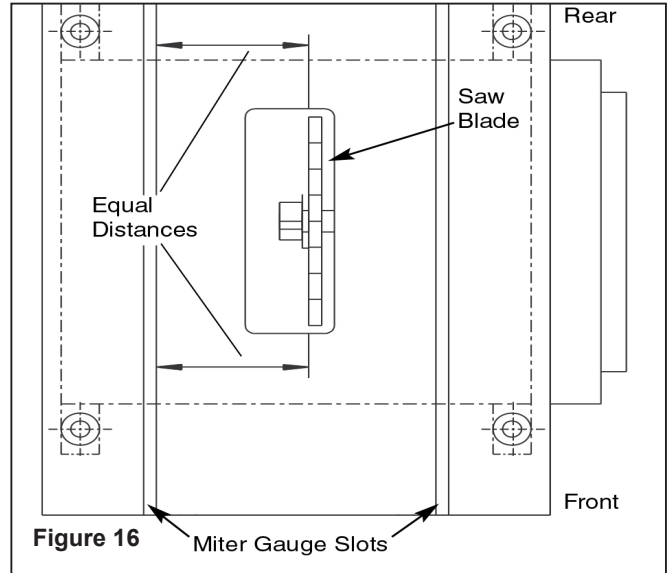

Figure 16
Refer to Figures 16, 17 and 18. Pages 9 and 10.
- Gauge this tooth with the dowel rod. If the tooth is in the same position, relative to the miter gauge slot, the table is parallel with the blade. In short, the miter gauge slots must be parallel with the blade. This means that when measuring distance between blade and miter gauge slot at the front and rear of the blade, the distances will be equal (see Figure 16).